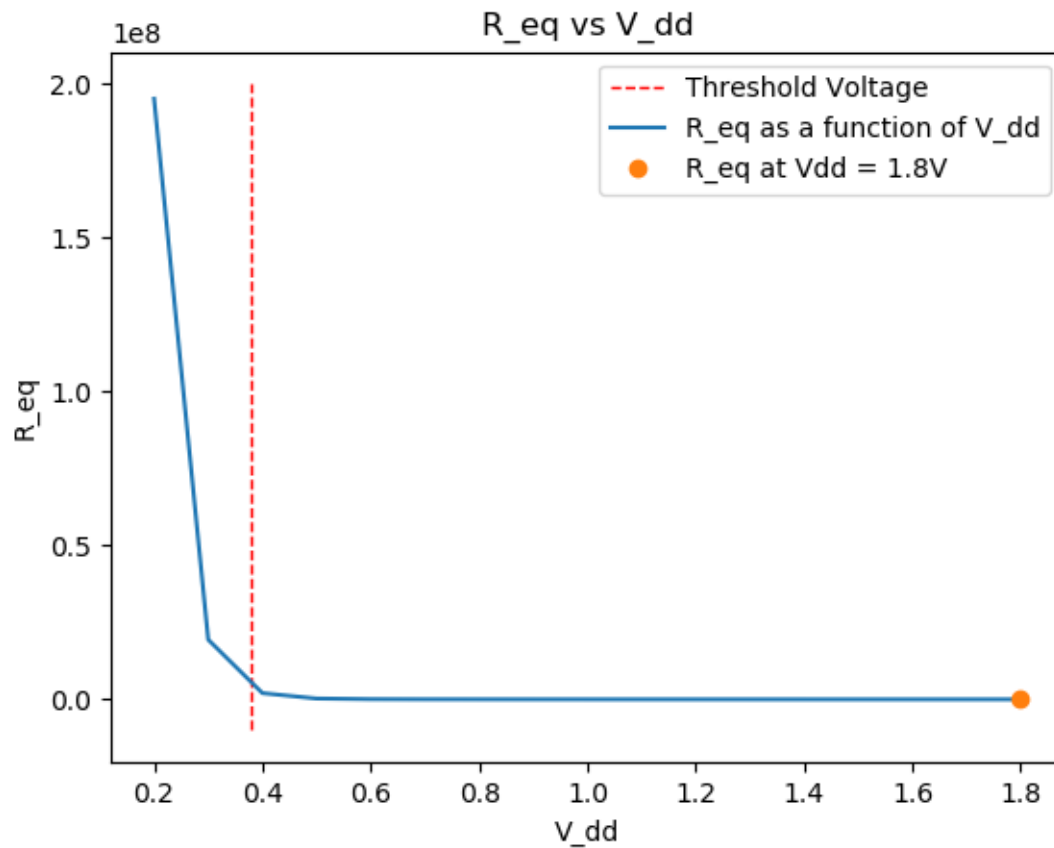

Figure 1: nmos
- Please refer Figure 1 for the plot of R_{eq} vs V_{DD} for an NMOS device.